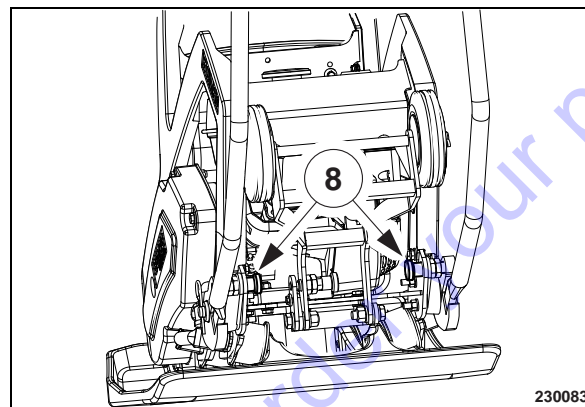

Fig. 34
- Lock the steering bow with the locking bolts (8) (Fig. 34).